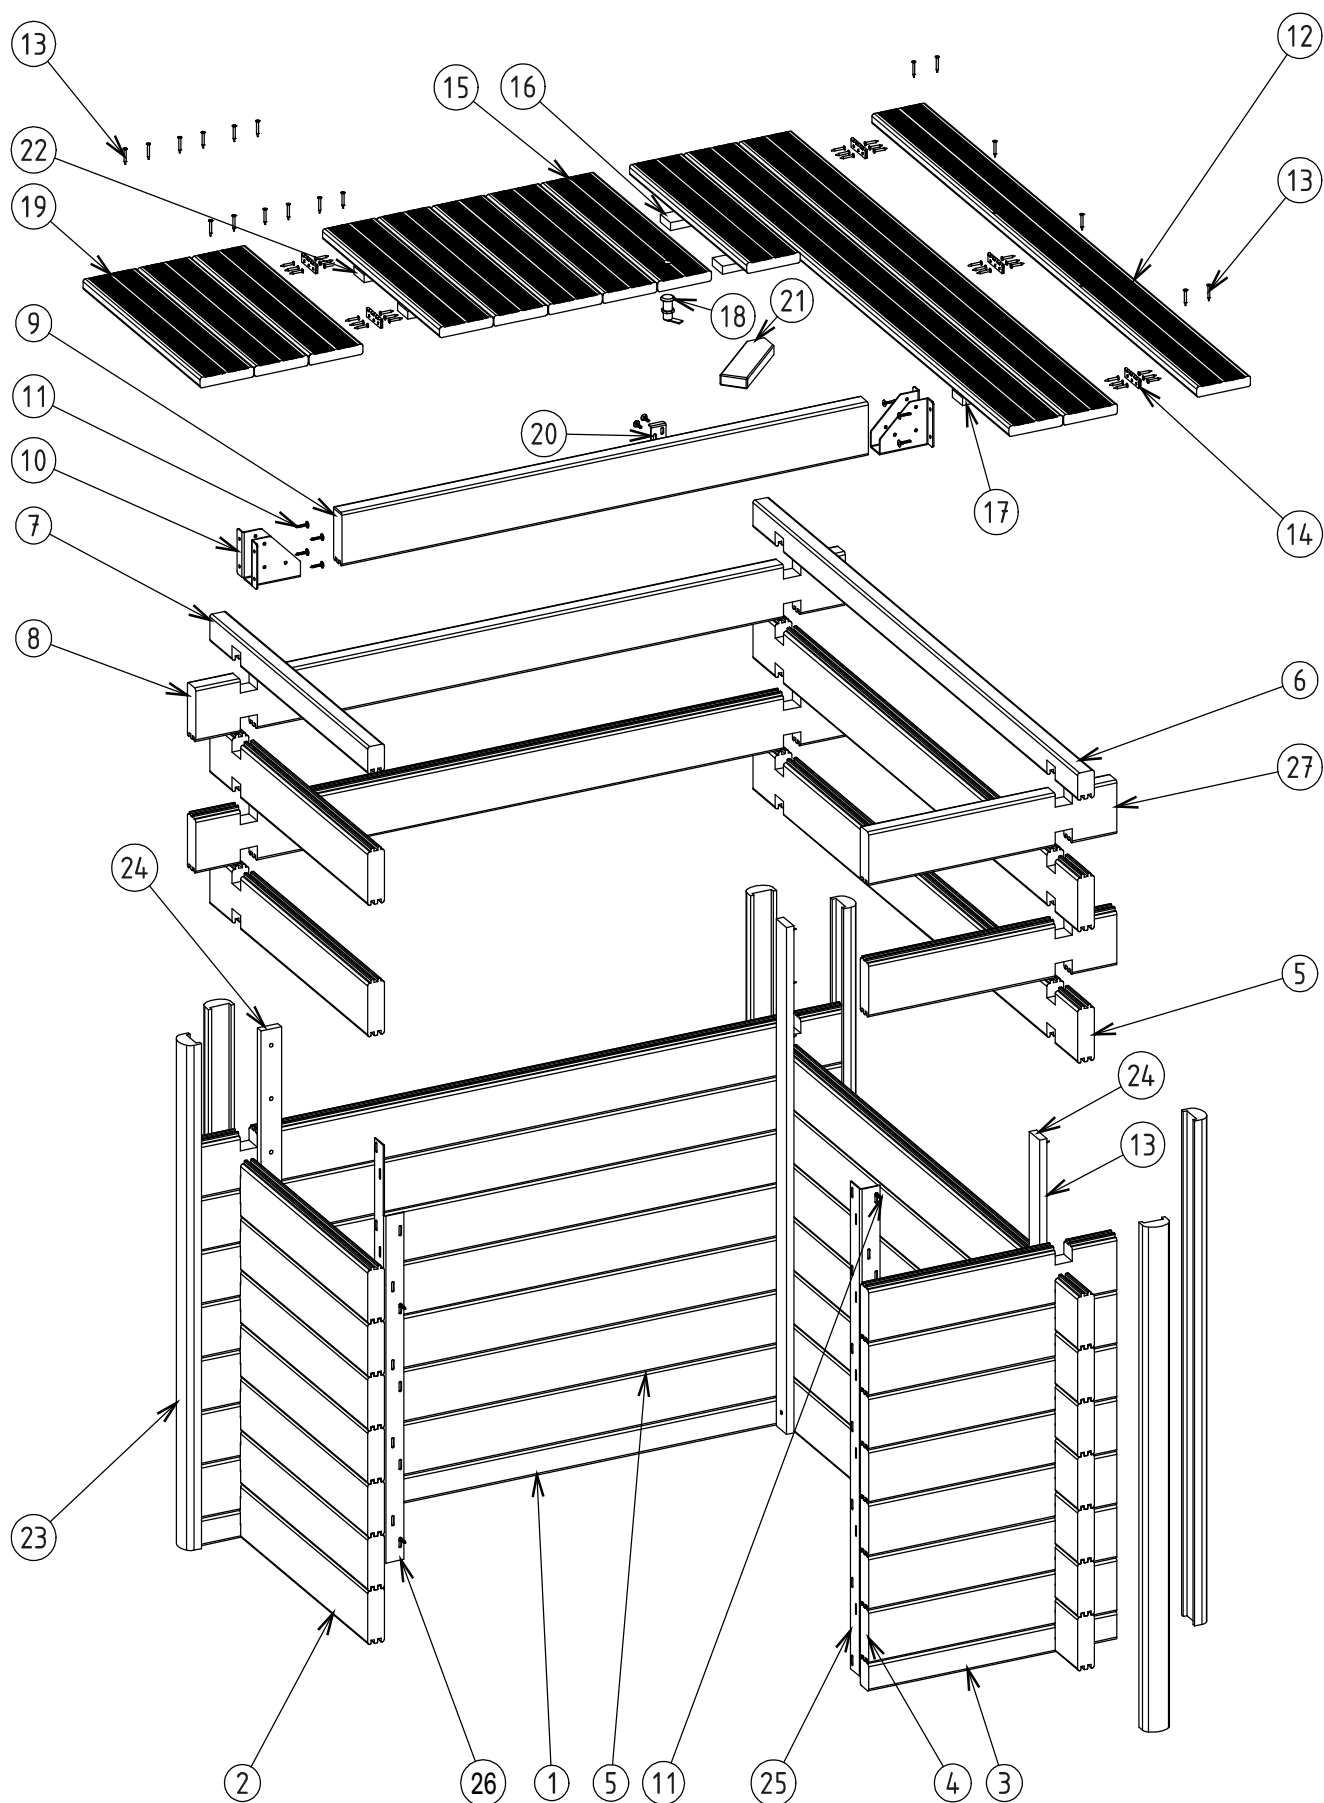
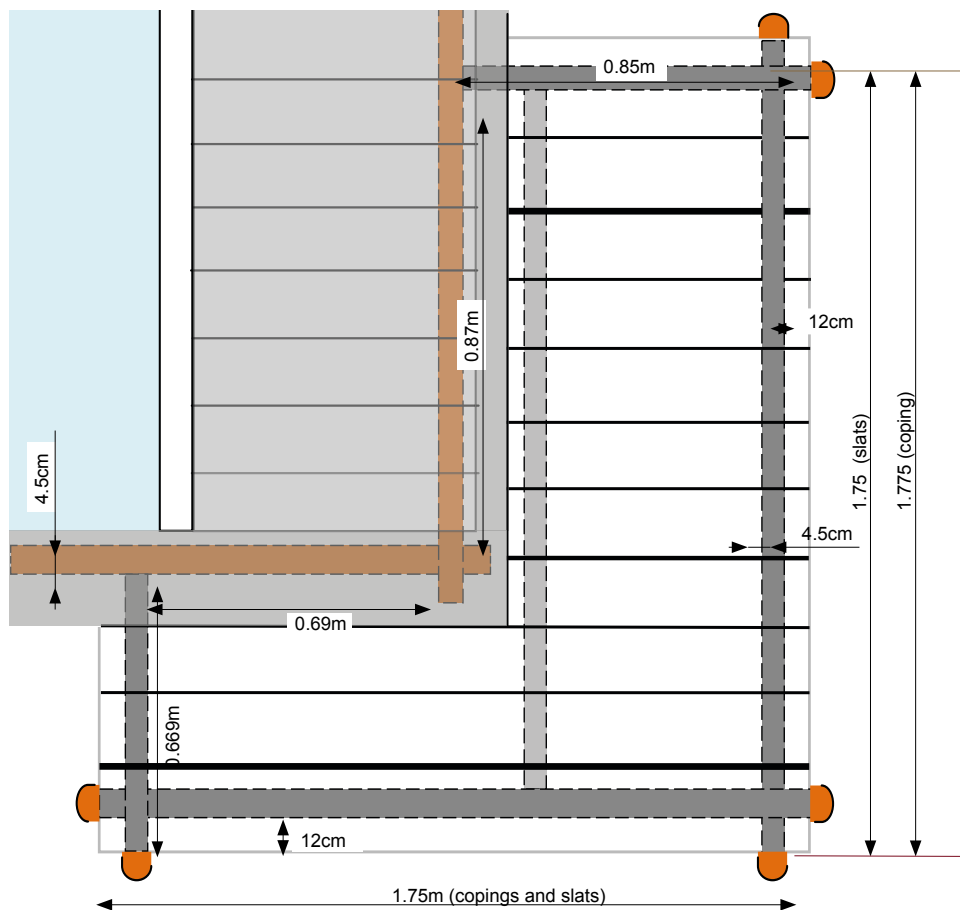

Figure 2
Figure 4
Assemble the structure exactly where the pool is to be installed because, due to its significant weight, it will not be possible to move the plant housing once it has been built. See the dimensions in figure 4
After assembling the first row of slats on the ground, position the two end slats against the pool exactly where they should be positioned. (see the dimensions in figure 4).
Attach each mounting bracket to the interior, flush with each of the two free ends (see figure 2) using torx screws, 6x30 (18 screws per bracket).
Fasten a cleat (ref 24 of figure 2) in each of the 3 vertical interior corners of the plant housing. Use 30 wood screws 5x40.
Screw each of the two beam support (ref 9 on figure 2) fastening shoes (ref 10 on figure 2) at the following locations using 4 torx screws, 6x30, per shoe :
1.4.5 Fastening the finishing trim to the ends of the wall (ref 23 on figure 2)
To avoid this, replace this part with that enclosed with the plant housing (ref 21 on figure 2), that has a pointed edge.
1. Using 3 torx screws, 4x35, per hinge, screw 3 hinges to the edge of a duckboarding slat that is 1.75 m long (ref 12 in figure 2) at the locations indicated in figure 10 (pre-drill the holes where necessary using a 2 mm drill bit) taking care to follow the instructions in figure 9. This coping slat will be mounted on top of the wall at the edge of the housing (see figure 4).
2. Using 3 torx screws, 4x35, per hinge, screw 2 hinges to the edge of a duckboarding slat that is 63 cm long (ref 19 in figure 2) at the locations indicated in figure 10.
1. The small flap is comprised of 5 coping slats 63 cm long, it includes the slat that features a hole for mounting the lock (ref 15 figure 2): fasten two cleats, length 73 cm, (ref 22 in figure 2) under the coping slats, taking care to respect the dimensions and 2 mm gap between the copings shown in figure 10.
- a. Fasten two 45 cm cleats (ref 16 in figure 2) under the 3 coping slats, allow the cleats to extend 3.5 cm beyond the slats on the side of the 63 cm coping slat. Respect the dimensions and 2 mm gap between copings shown in figure 10;